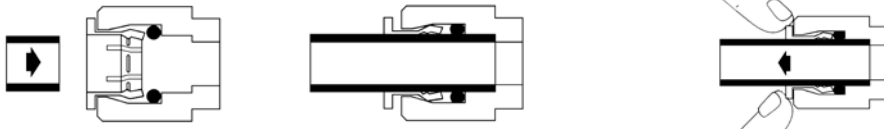

Figure 3
4. To replace the polishing filter, the tubing needs to be removed from the old filter. Check both ends of 3/8" tubing for any scratches. If scratches exist, please use a utility knife and make a **straight** cut to remove any imperfections on tubing. (Figure 3) Connect the tubing to the new polishing filter with the "FLOW" arrow pointed in the direction of the faucet.